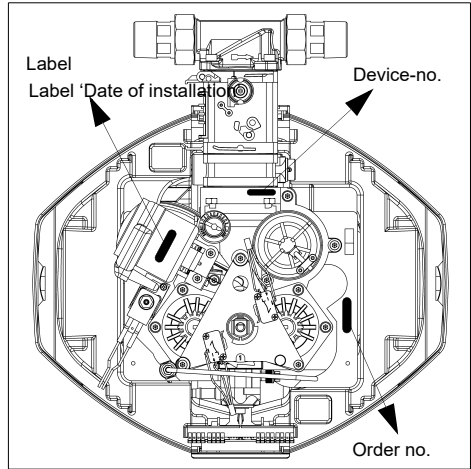

Fig. 3: Device and order no. plus Label 'Date of installation'
- Enter the date of installation on the label (see fig. 3).